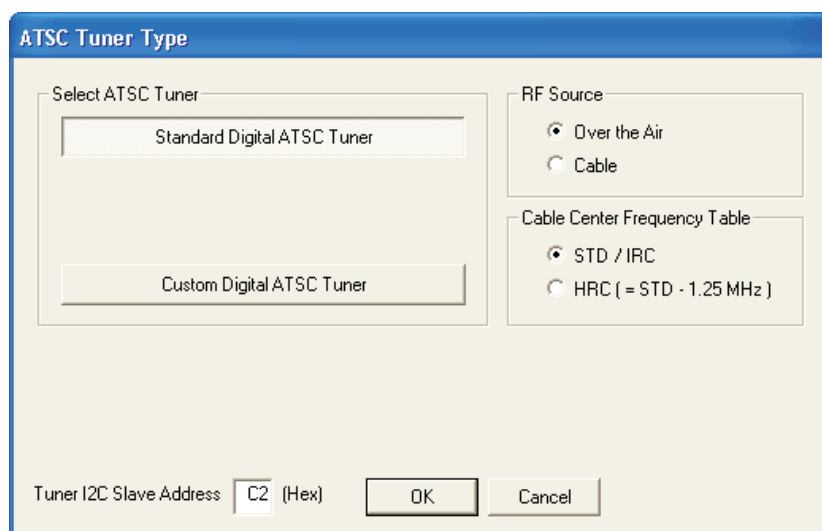

Figure 4. ATSC Tuner Type
8. Program the tuner by clicking Tools → TV Tuner Control → ATSC. The ATSC Tuner Type window (see Figure 4) allows the user to select tuner and source settings. Click the Standard Digital ATSC Tuner button and click OK to use the default tuner shipped with the TVP9900EVM.